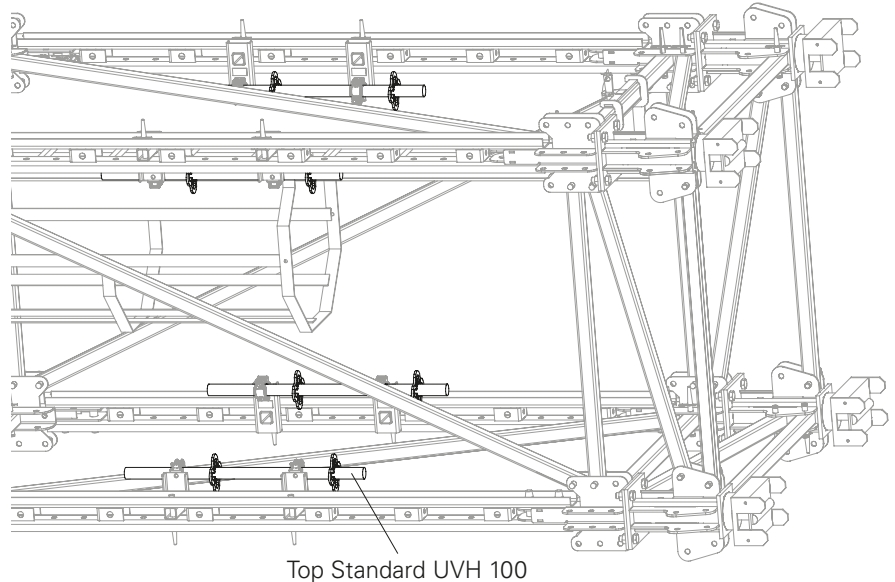

Fig. A1.47
2. Insert 1x Top Standard UVH 100 into the Scaffolding Connector Alpha (**84**) on each vertical, and clamp. (Fig. A1.47)